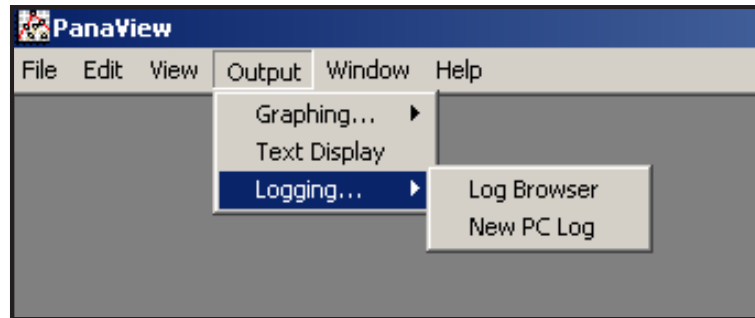
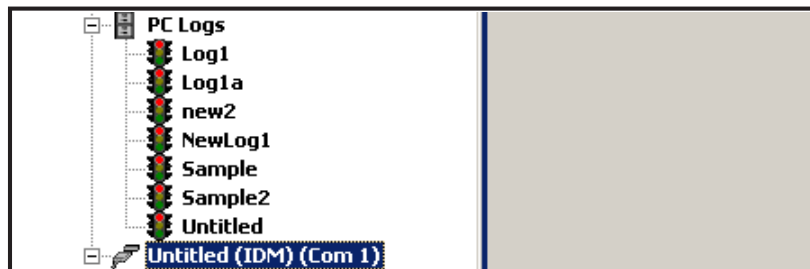
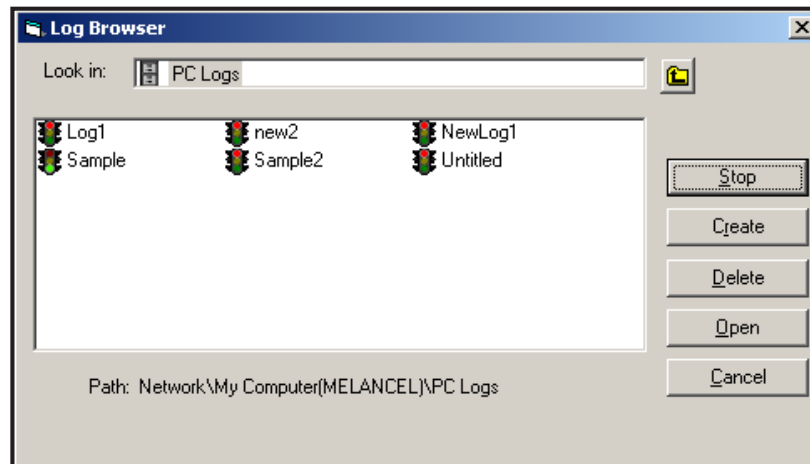

Figure 13: Selections in the Logging Option
Figure 22: The Expanded PC Logs Option
Figure 23: Selecting a Log File from the Log Browser
1. Open the *Output* menu (see Figure 13), and click on the *Logging* option.
- From the *New Meter Browser* in PanaView, expand the network tree and click on the *PC Logs* option. If you have created one or more logs, the tree will appear similar to Figure 22. Double-click on the log name to open the log, or
- Pull down the *Output* menu (see Figure 13 on page 61), and click on the *Log Browser* option. Advance to the *PC Logs* dialog box as described in previous sections. A screen similar to that shown in Figure 23 appears.
Notice that each of the log files in Figure 22 and Figure 23 has a traffic light icon next to its name. These icons indicate the current status of the log as follows: